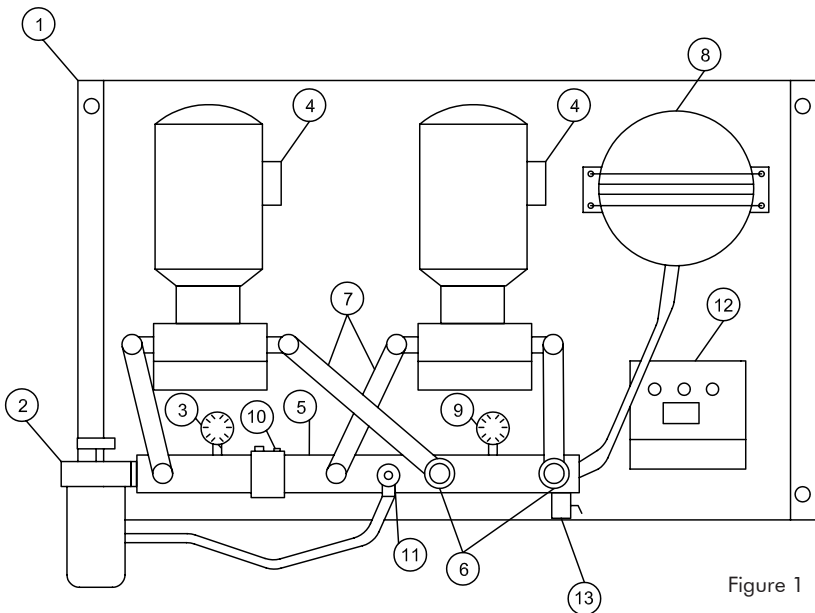

Figure 1
1. Connection of aspiration piping between the equipment (see Figure 1, Point 2) and the tank, employing copper piping (recommended) and compression connectors in order to guarantee good sealing.
1. Connection of impulsion piping between the pressure equipment, see Figure 1, Pont 13 and the consumption point using copper piping and include the necessary elements for feed the one or two-stage burners, see page 5, standby generators (tanks), see page 5 or modulating burners, see page 6.